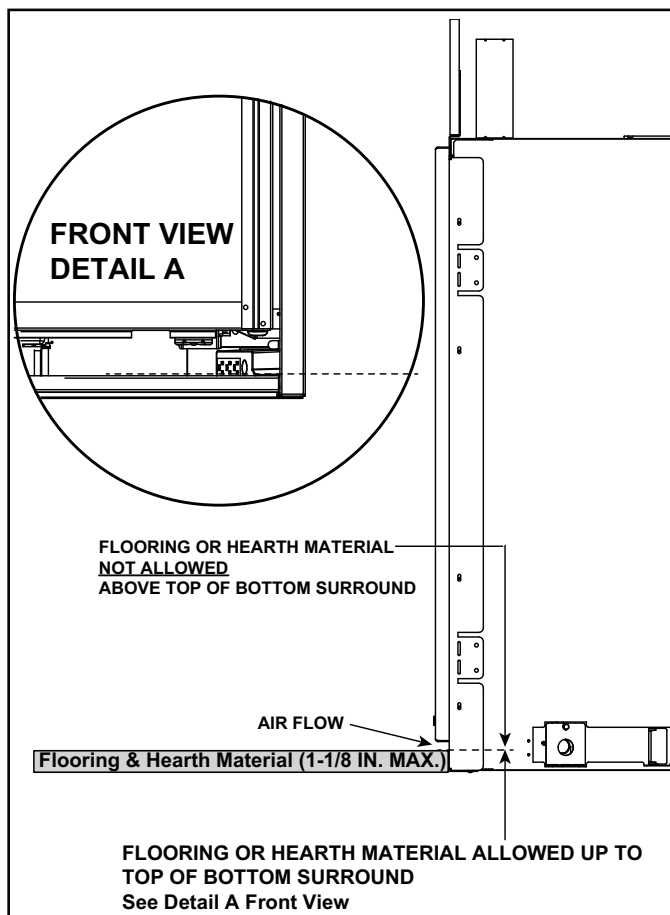

Figure 3.14 Flooring & Hearth Material Allowed
- Flooring and hearth material is allowed up to, but not above, the top of the bottom surround in order to allow for proper air flow from appliance. See Figure 3.14.